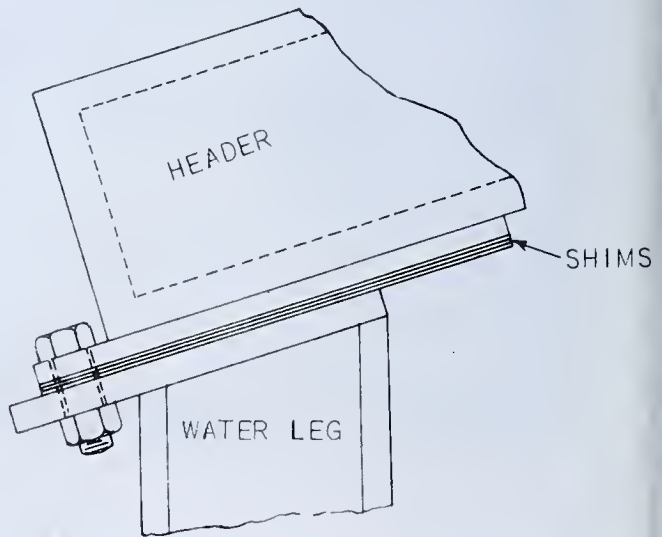
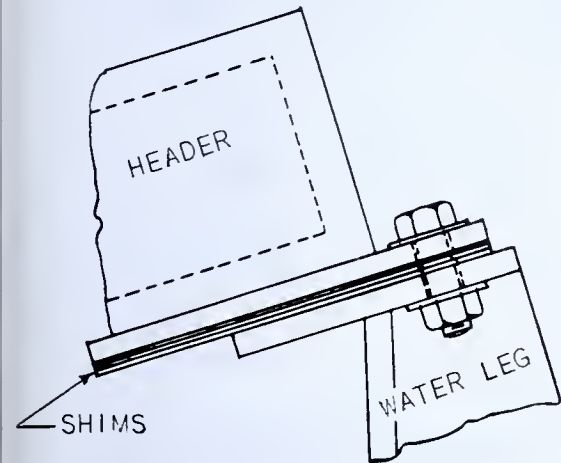

FIG. 509 — *Front End of Superheater Header*
FIG. 510 — *Rear End of Superheater Header*
8. Install superheater headers as shown in Fig. 506. See details Fig. 509 and Fig. 510 for location of bolts and shims.